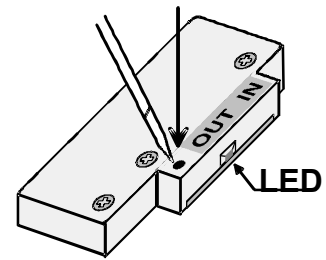
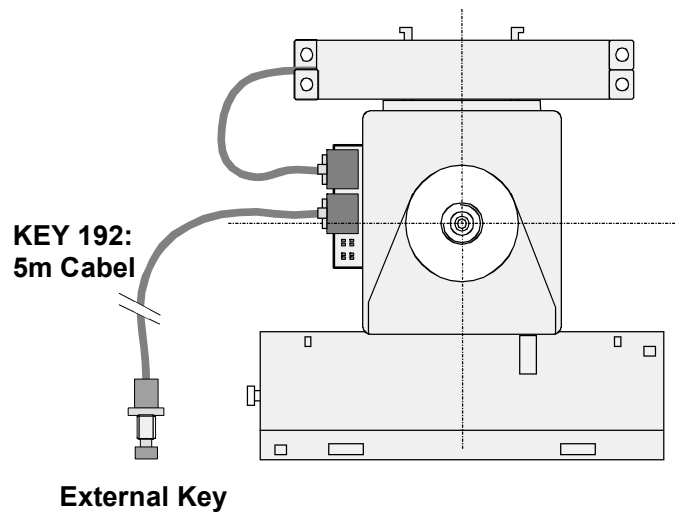

Fig. 5
Fig. 6
4.3 Function of the operating key (Fig. 5)
4.4 Remote control by means of external key (Fig. 6)
Check the reception quality by the side-positioned LED (Fig. 5, page 6).
Activate reception by a brief key touch (Fig. 5, page 6).
Operation device: Internal key (Fig. 5, page 6), or external key (Fig. 6, page 6)